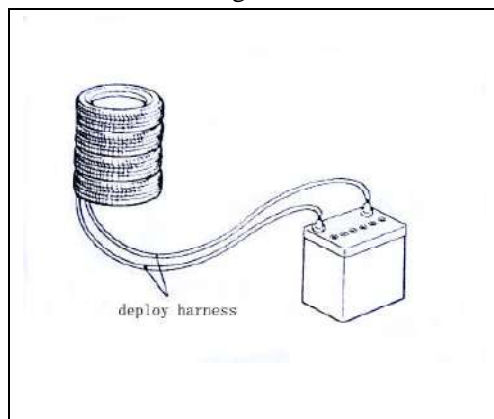

Fig 19-55
6) Disconnect the deployment harnesses as far from the front passenger's air bag module as possible and connect the harnesses to the battery removed from the vehicle. (See fig 19-55)